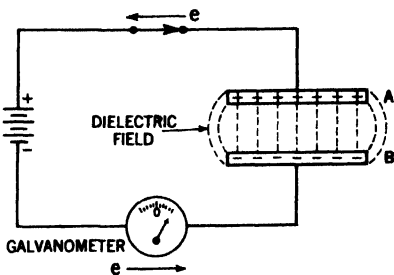

Fig. 33-2. Capacitor being charged.
**Charging a Capacitor.** Now close the switch. The positive pole of the battery, having a deficiency of electrons, pulls electrons off plate A of the capacitor, leaving a positive charge on that plate. The negative pole of the battery, having an excess of electrons, forces electrons to flow onto plate B of the capacitor, which receives, therefore, a negative charge. The meter shows this flow of electrons by the pointer's deflecting to the right, as seen in Figure 33-2.
From Figure 33-2, you see that when the capacitor is charged, the electromotive force created by the dielectric field is exactly equal and opposite to the electromotive force of the
**An Experiment with the Dielectric.** Suppose we connect the capacitor and the battery in the circuit again as in Figure 33-2. Now, while the capacitor is in this charged condition (Fig. 33-2), let us change the material of the dielectric by inserting a sheet of
**What Is Capacitance?** From Figure 33-2, we can see that as we charge a capacitor, the dielectric field builds up a counter electromotive force which opposes the original electromotive force. The greater the electromotive force, the stronger the dielectric field and the greater the counter electromotive force. (We must take care, however, not to exceed the breakdown limit of the capacitor.) Thus, the capacitor acts to oppose any change in the voltage. This property of a circuit which opposes any change in voltage is known as *capacitance*. In direct-current circuits where the voltage is continuous and does not vary, capacitance, therefore, does not enter into their functioning. But in alternating-current circuits, the voltage is constantly changing, and here capacitance is just as important as inductance.
moment the switch is closed, there will be a flow of electrons to one plate of the capacitor and from the other plate. Thus, in effect, there will be a flow of current in the direct-current circuit except through the dielectric (Fig. 33-2). This flow will continue until the counter electromotive force of the capacitor is equal to the electromotive force of the battery. This equilibrium comes about very quickly. Then the current flow ceases.